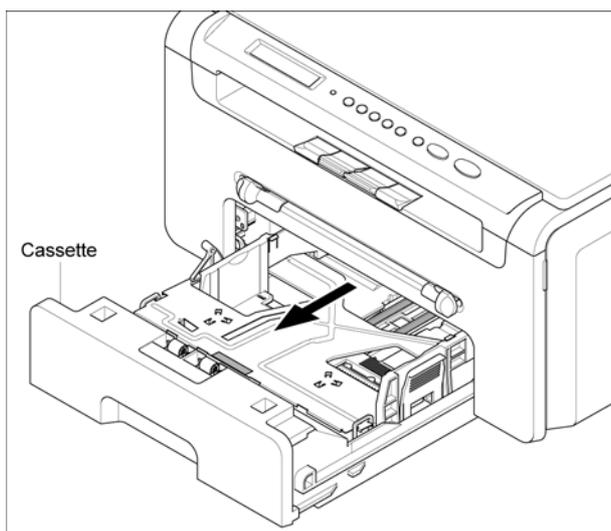

Figure 1
1. Remove the cassette assembly, Figure 1.